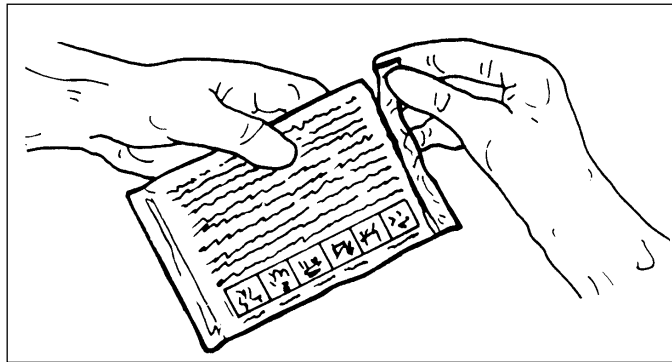

Fig 4-10. Sampler in protective bag.
- Tear the protective bag along the line marked by arrows (fig 4-10).